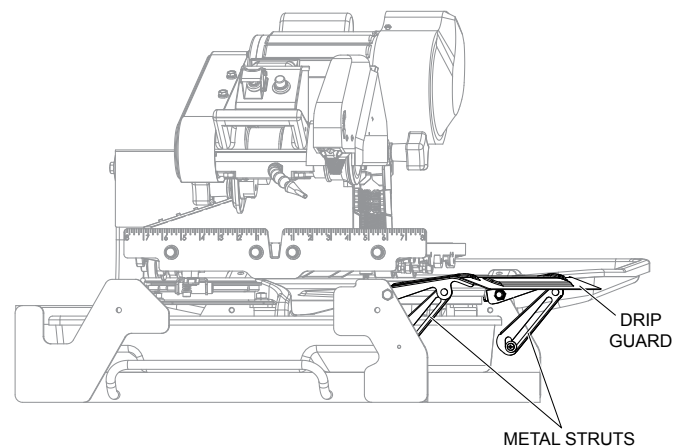

Figure 14. Drip Guard
3. When the saw is no longer in use, unlock the drip guard by lifting the base of the metal struts on either side and then lower the drip guard. See Figure 14.